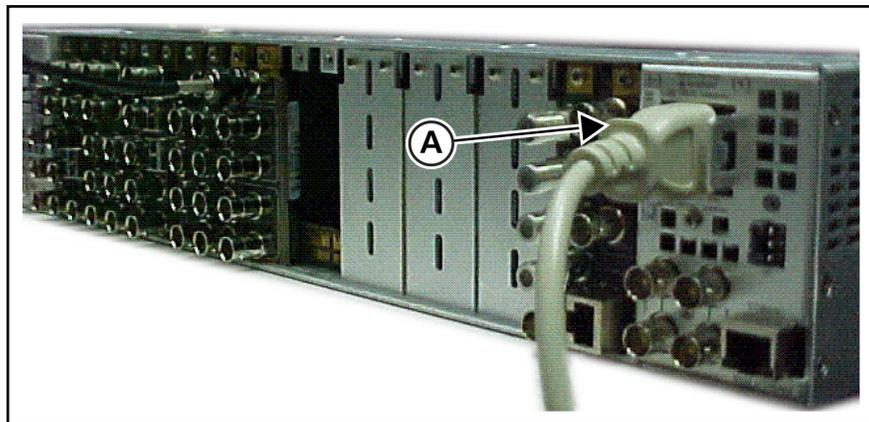

Figure 2-1 Connection for Non-CCS Control
If the frame does not have CCS control, plug a power cord (A) to the back of the frame as shown in Figure 2-1. Plug the other end of the power cord into an electrical outlet.